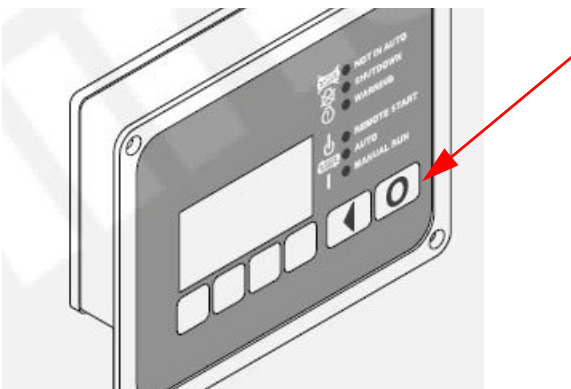

Figure 4-4 GenSet control switch
3. As shown in Figure 4-4, press the **Off Mode Button** (the “O”) on the remote operator panel. The graphical LCD panel will wake up and enter an initializing mode.